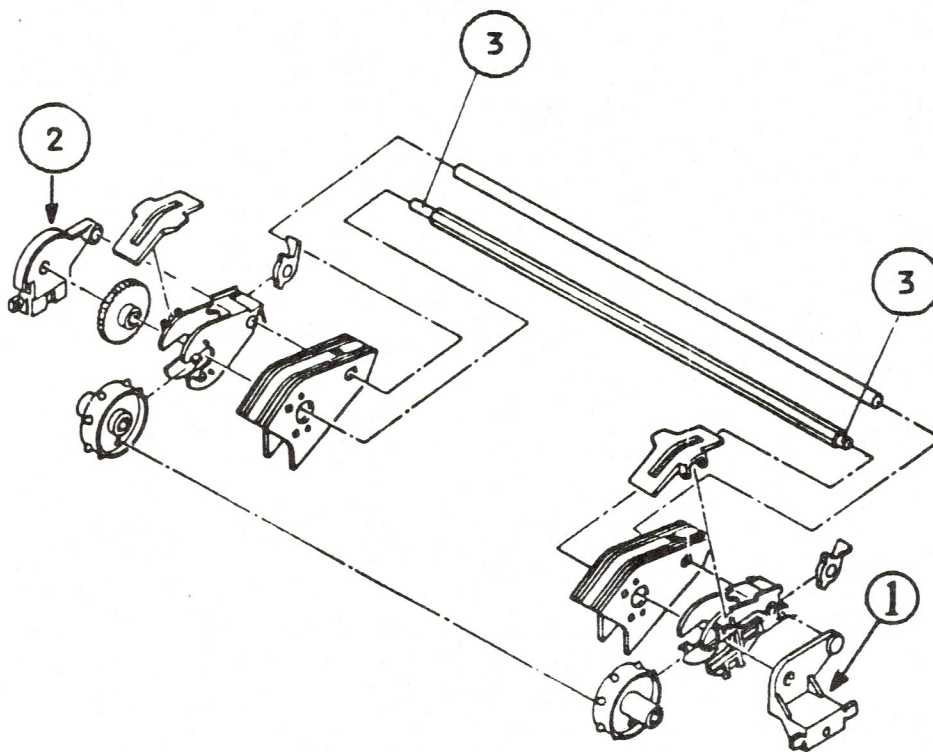

Figure 10
- c) Clean the ends of the tractor shaft (Figure 10, #3) with a clean cloth.